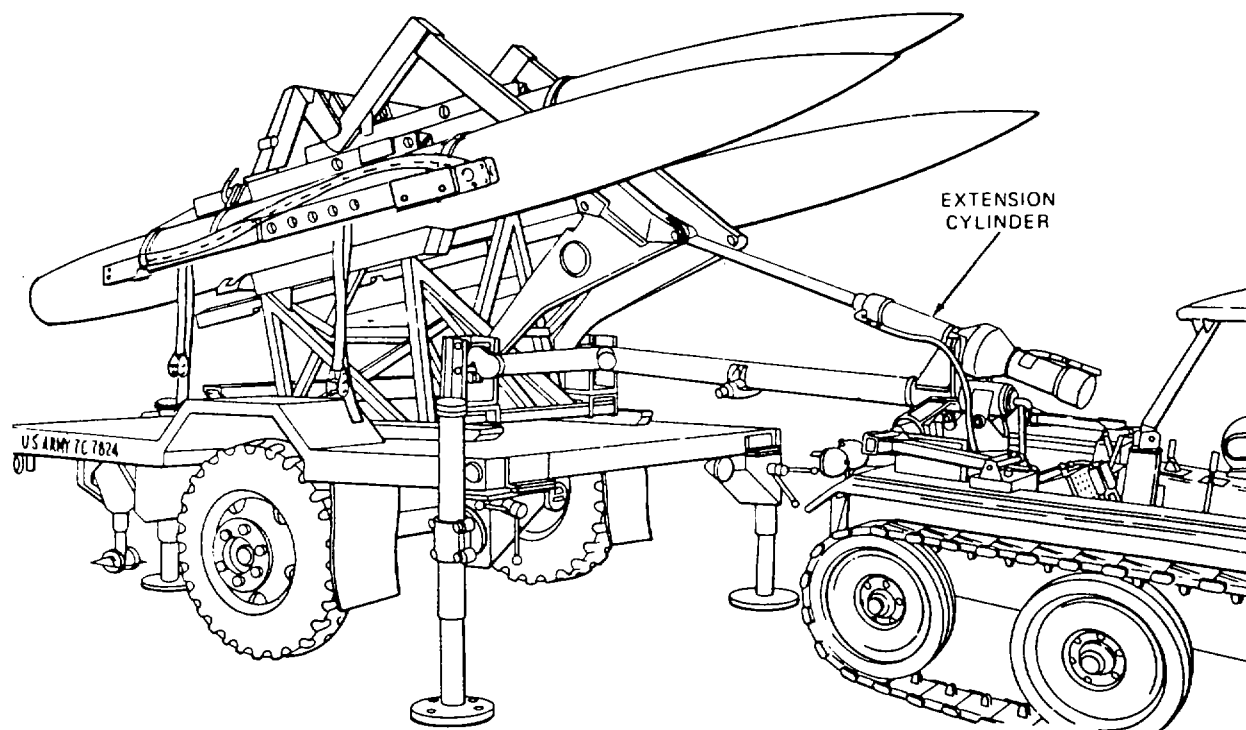

Figure 6-26. Extension Cylinder Extended
(5) Extend the extension cylinder (figure 6-26) until center hoisting beam is in latching position. Latch it to the missile.